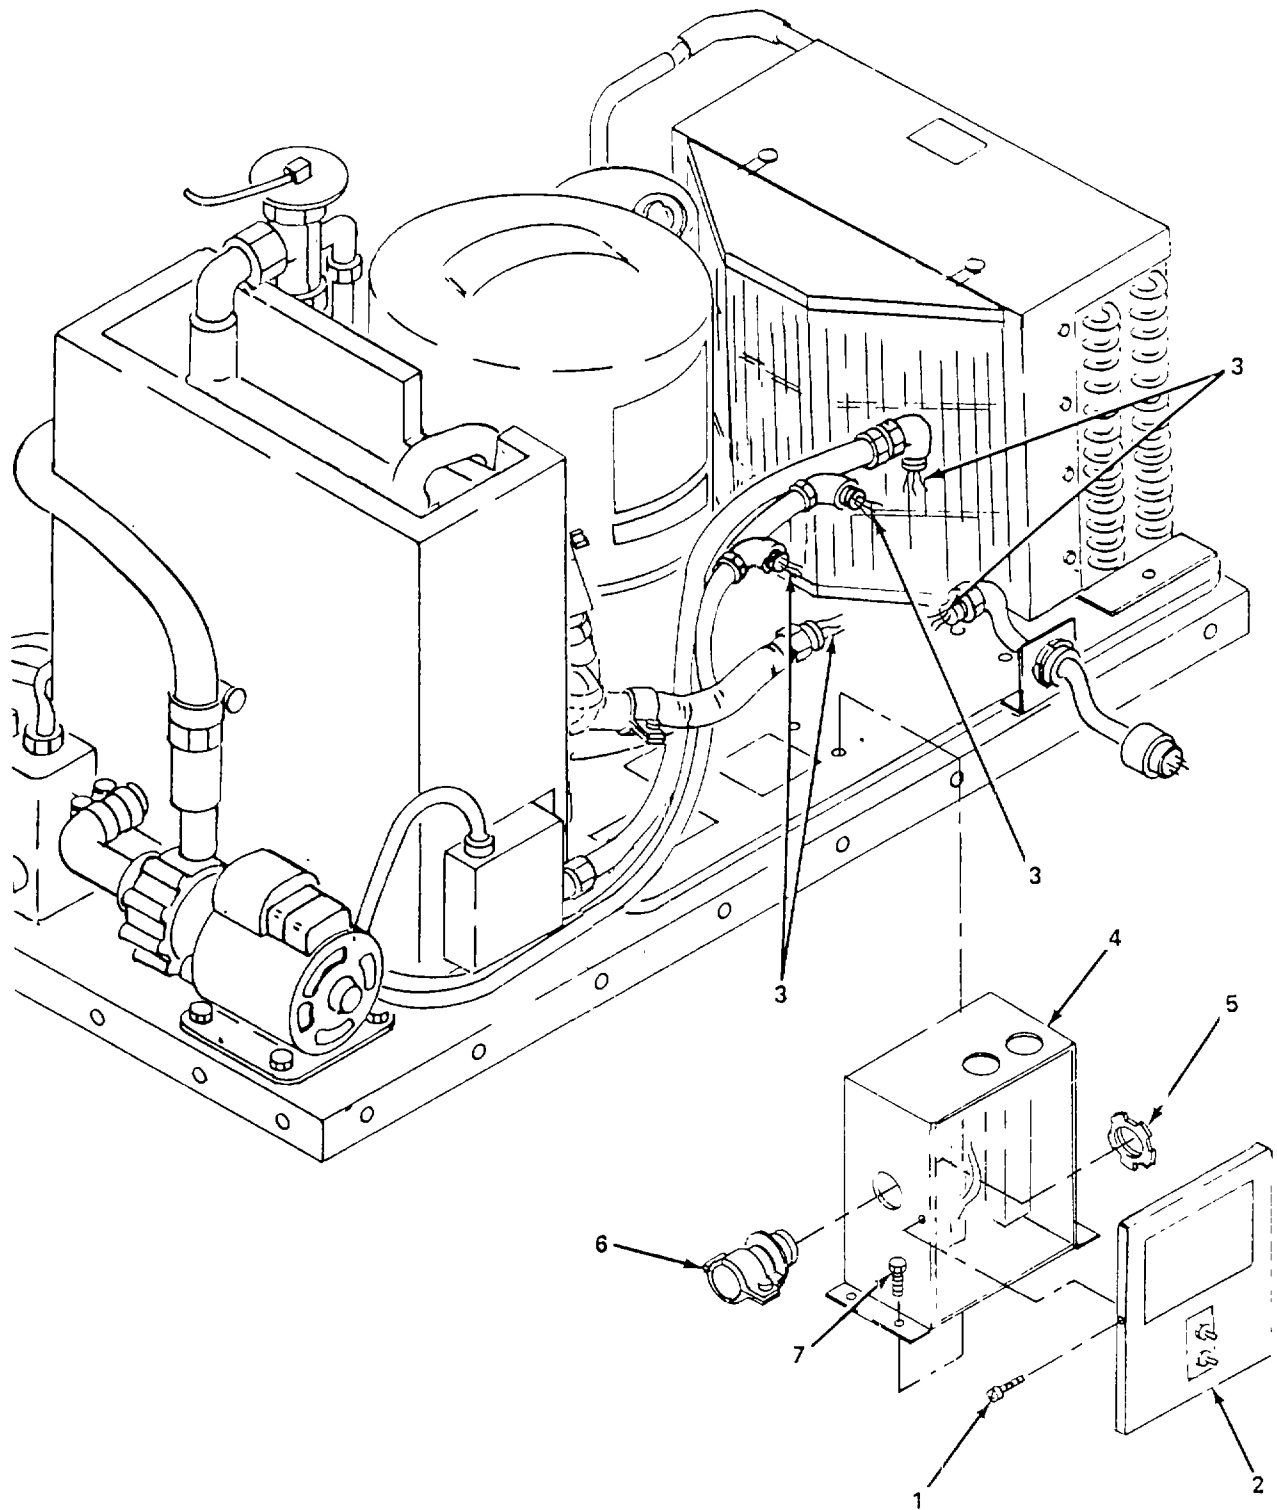

Figure 6-26. Control Box, Replace.
a. Replace. (figure 6-26)
- (1) Remove two screws (1) and remove cover (2).
- (2) Tag and disconnect wires (3) from control box (4).
- (3) Remove five self-locking nut (5) and remove five connector (6).
- (4) Remove two screws (7) and remove control box (4).
- (5) Install control box (4) and secure with two screws (7).
- (6) Install five connectors (6) and secure with five self-locking nuts (5).
- (7) Connect 14 wires (3) to control box (4).
- (8) Install cover (2) and secure with two screws (1).